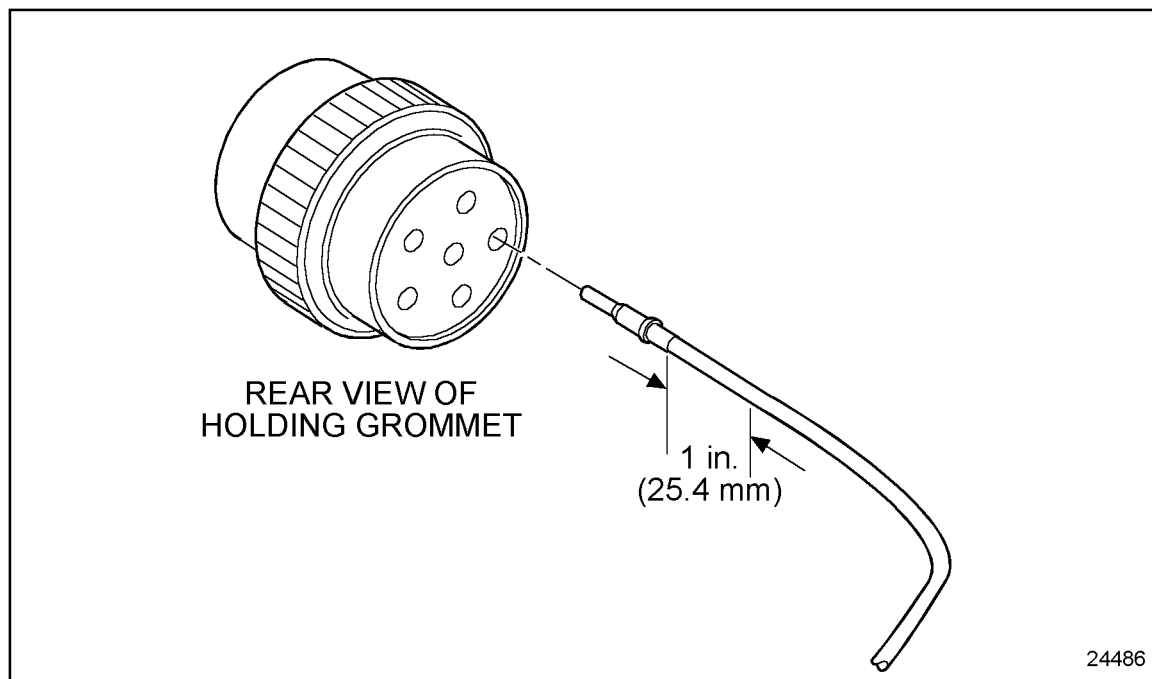
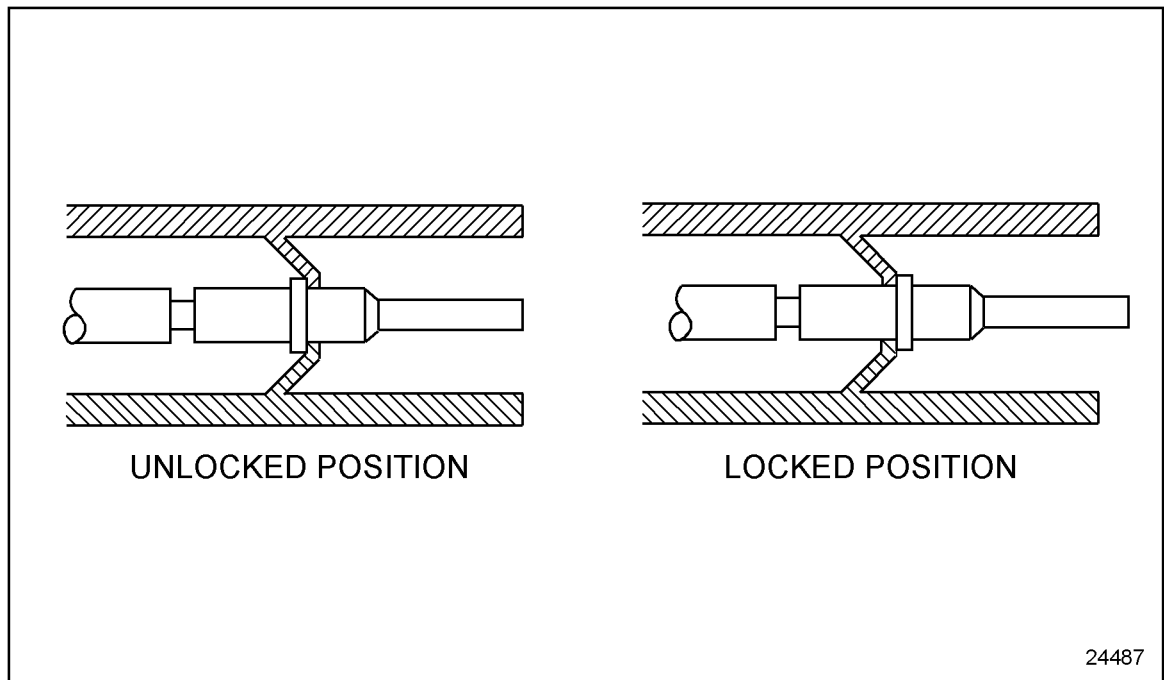

Figure 8-19 **Pushing Contact Into Grommet**
Figure 8-20 Locking Terminal Into Connector
5. Grasp the contact approximately one inch behind the contact crimp barrel. Hold the connector with the rear grommet facing you. See Figure 8-19.
6. Push the contact into the grommet until a positive stop is felt. See Figure 8-19. A slight tug will confirm that it is properly locked into place. See Figure 8-20.